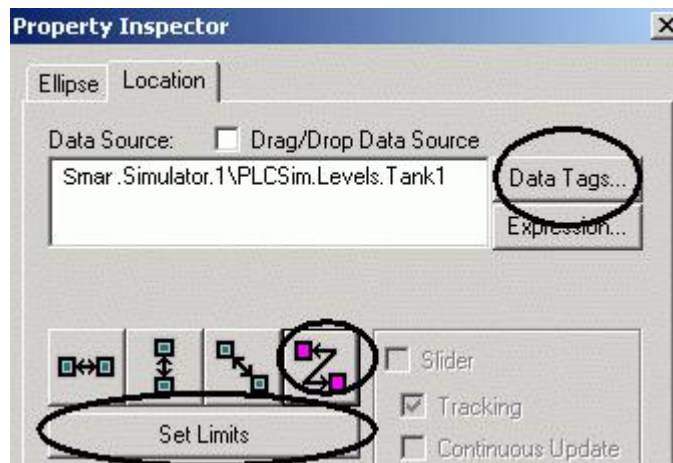

Figure 5.16. Location Dynamic Property Inspector
4. The **Property Inspector** for the **Location/Slider Dynamic** appears, as shown in **Figure 5.16**. The **Ellipse** tab refers to the visible object to which this dynamic is attached. Setting up the location dynamic is a simple three-step process: